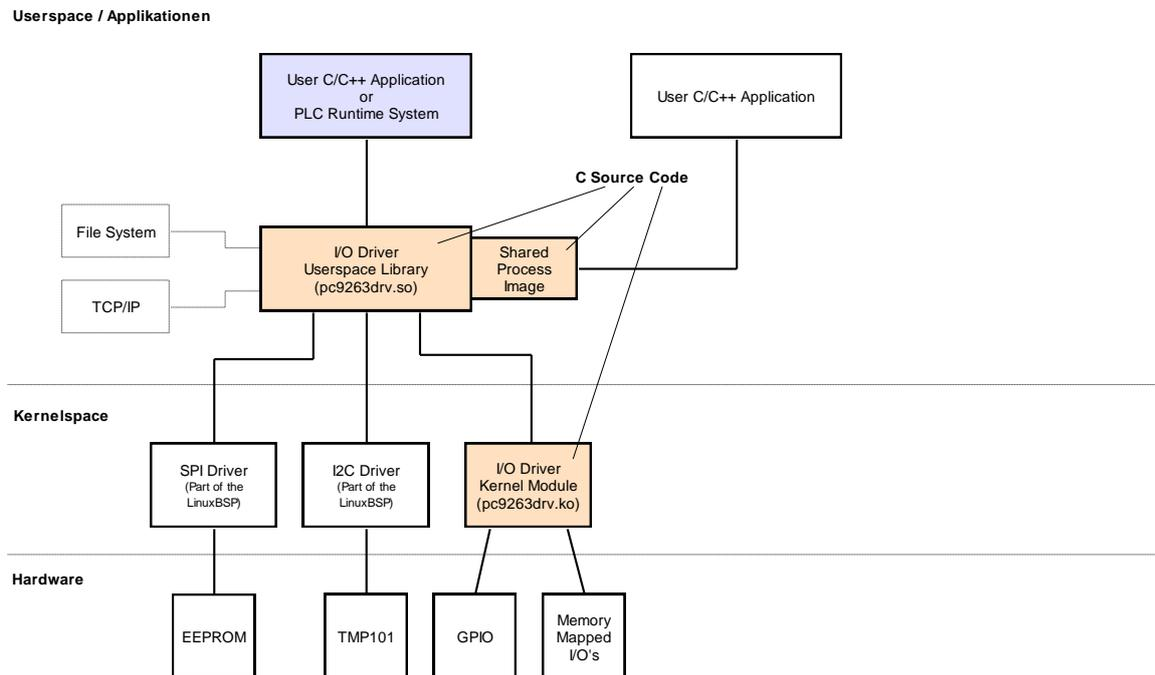

Figure 65: Overview of the Driver Development Kit for the ECUcore-9263
Figure 65 provides an overview of the DDK structure and its components. The DDK contains amongst others the source code of the Linux kernel driver (*pc9263drv.ko*) and the Linux user library (*pc9263drv.so*).
1. Source code for the Linux kernel driver (*pc9263drv.ko*, see Figure 65); includes all files necessary to regenerate kernel drivers (C and H files, Make file etc.)
2. Source code for the Linux user library (*pc9263drv.so*, see Figure 65); contains all files (incl. implementation of Shared Process Image) necessary to regenerate a user library (C and H files, Make file etc.)